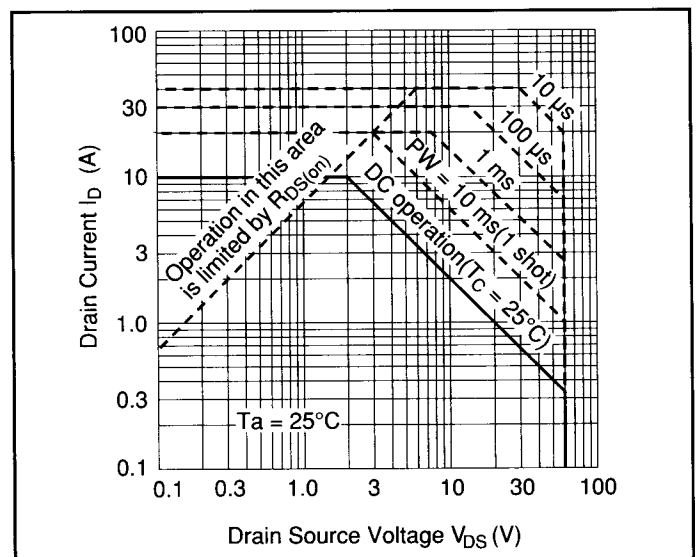

Figure 6 Output Transistor Area of Safe Operation (Reference Data)
3. Refer to ASO data (figure 6)